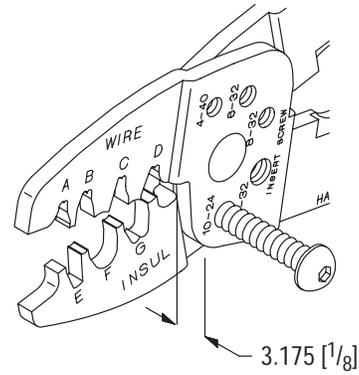

Figure 3
3. BOLT CUTTING PROCEDURE (Figure 3)